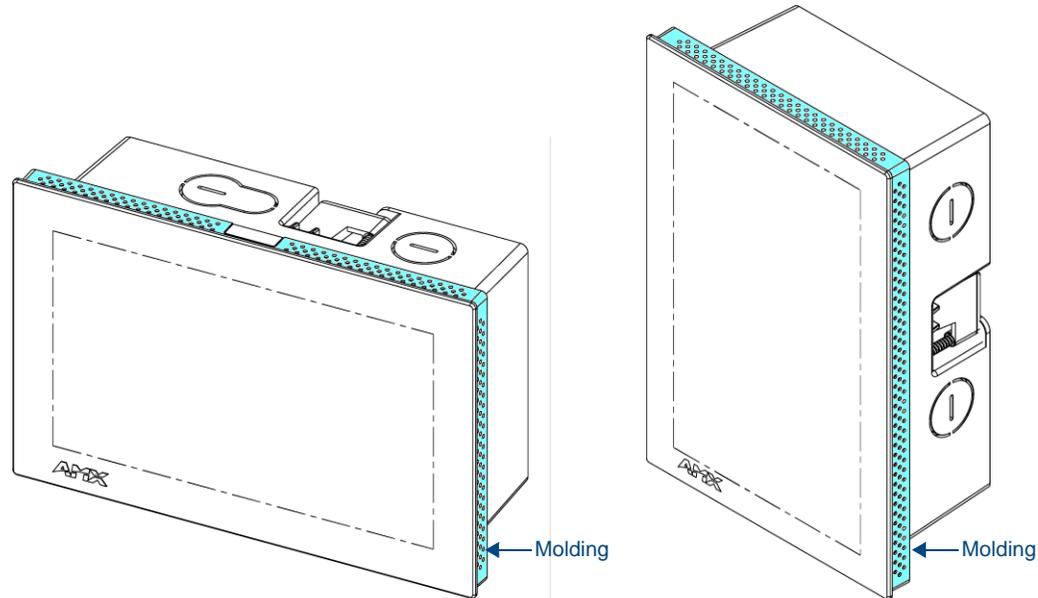

FIG. 38 MXD-700 Molding (highlighted in blue)
1. The MXD-700 has three rows of ventilation holes along the molding (FIG. 38):